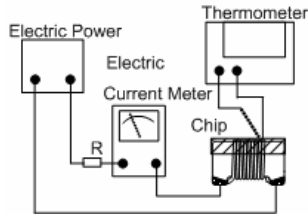

Fig. 5.3.5-1
- d. Definition of Rated Current (Ir): Ir is direct electric current as chip surface temperature rose just 40°C against chip initial surface temperature (Ta) (see Fig. 5.3.5-2)